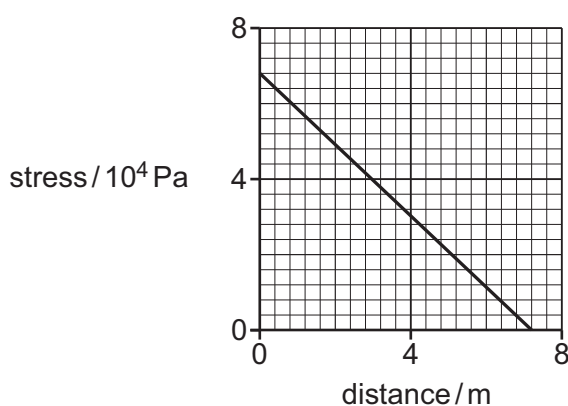

Figure 2.1
- (iii)** Figure 2.1 shows the variation with distance from the top of the thread of the stress in the thread due to its own weight.
Suggest an explanation for the fact that the variation shown in Figure 2.1 is linear.